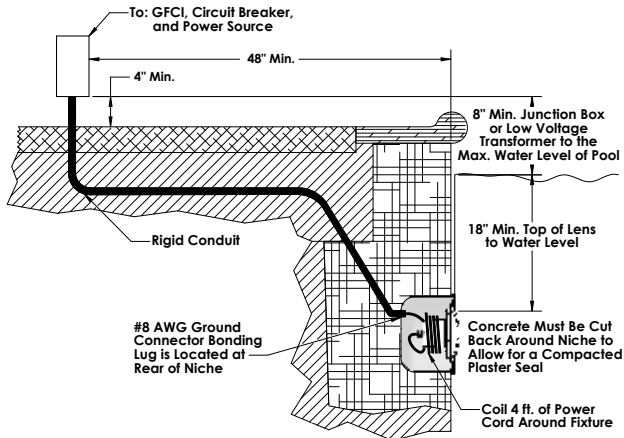

Figure 1.
pool water level and at least 48 inches from the pool edge; reference Figure 1.
- Proper wet niche installation with the top edge of the underwater light's lens at least 18 inches below the surface of the water in the pool and not more than 20" in Canada; reference Figure 1.
- Proper electrical wet niche bonding and grounding using the #8 AWG ground connector at the rear of the niche; reference Figure 1.
- The wet niche is properly electrically bonded and grounded via the No. 8 AWG ground connector located at the rear of the niche; see Figure 1.